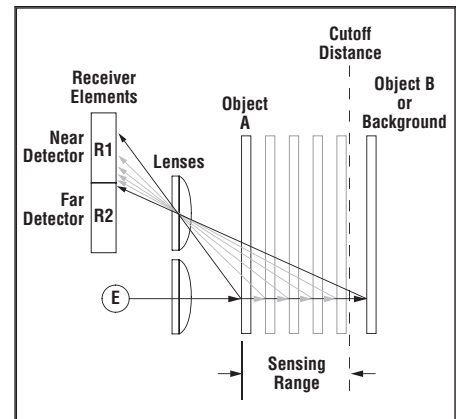

Figure 2. Adjustable field sensing concept
In operation, the Q60LAF compares the reflections of its emitted light beam (E) from an object back to the sensor's two differently-aimed detectors R1 and R2 (see Figure 2). If the near detector (R1) light signal is stronger than the far detector (R2) light signal (see object A, closer than the cutoff distance), the sensor responds to the object. If the far detector (R2) light signal is stronger than the near detector (R1) light signal (see object B, object beyond the cutoff distance), the sensor ignores the object.